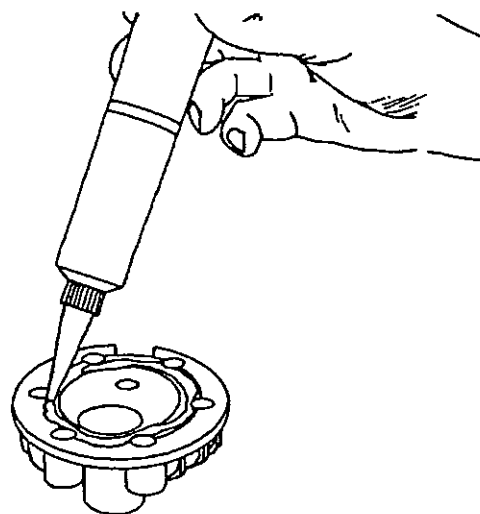

Fig. 11.5 Application of sealing compound
- Before fitting the intake valve to the valve head, grease the valve plate (7) slightly and place it correctly on the valve seat to make reassembly easier.
- Apply a temperature-resistant, non-age-hardening RTV sealing compound to the sealing surface of the valve head (fig. 11.5).
- Place the valve plate (17) and o-ring (16) into the valve seat of the piston cylinder.
- Torque the valve head cap screws (21) to 18 ft-lb (25 Nm) **before** tightening the socket set screw (12) in order to avoid damage to the valve body (8).
- Tighten the socket set screw (12) with the appropriate sized allen wrench.
- Position the gasket (13) and acorn nut (14) and tighten it with an open end wrench.
- Reinstall the tube connections (19 & 20) and the inlet connection to the valve head (15).
- Apply a temperature-resistant, non-age-hardening RTV sealing compound to the sealing surfaces of the valve head (1) and the piston cylinder. See fig. 11.5.
- Return the studs (8) to the piston cylinder.
- Position the new cylinder gasket (6) onto the sealing surface of the piston cylinder.
- Position the reed valves assembly (5) on the cylinder gasket. Ensure that the side marked "Top" is facing up when installed.
- Position the new valve head gasket (4) on top of the valves assembly.
- Reinstall the valve head (1) onto the piston cylinder.